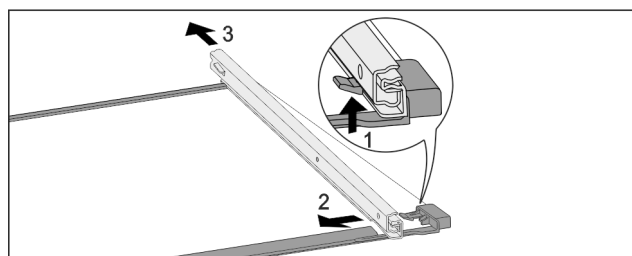

Fig. 110 Glass shelf with rails
- Push up front click-in hooks. Fig. 110 (1)
- Move the pull-out rails to the side Fig. 110 (2) and to the rear Fig. 110 (3).